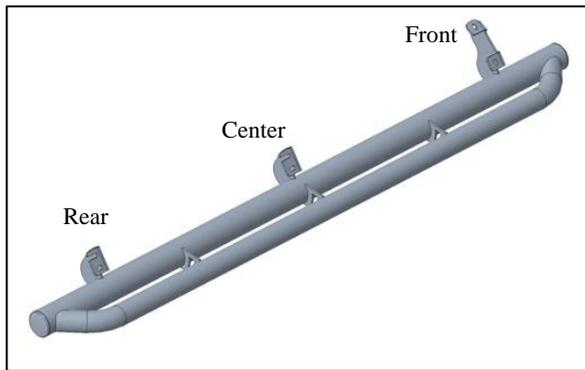

Fig. 2-1
- (a) Note the bracket positions of the passenger side Rock Rail (Fig. 2-1).
⚠ NOTE: The long bracket goes to the front of the vehicle (Fig. 2-1).